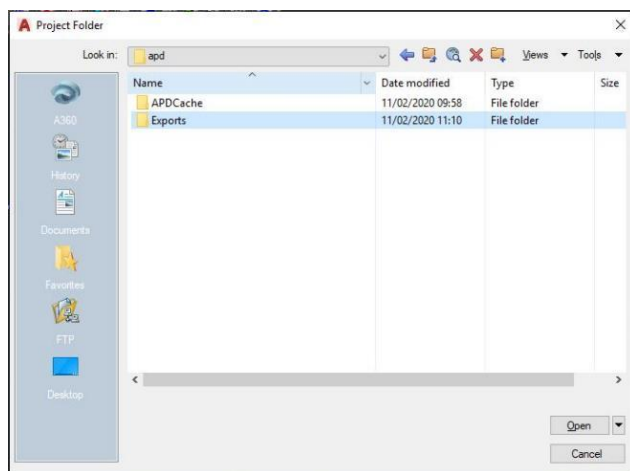

Fig. 117 – Project export path
1. Click on  command and select the folder where the project is contained (not the raw data). The User must click on the  button (Fig. 117).